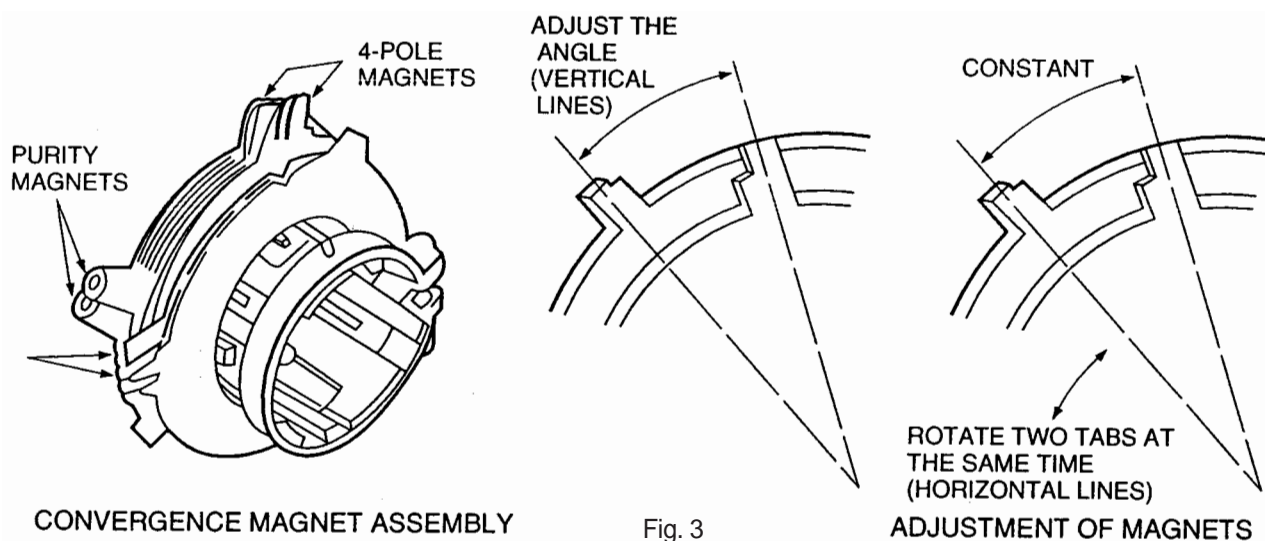
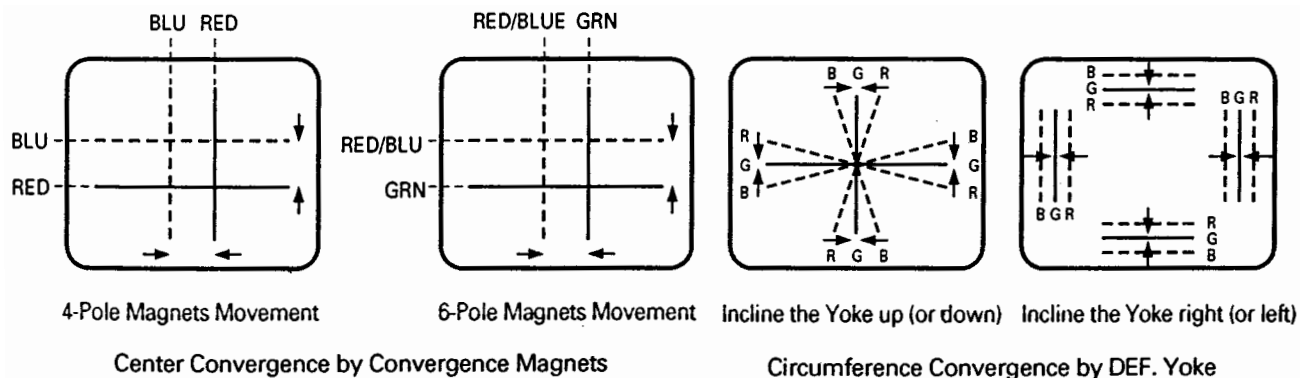

Fig. 3
Fig. 4 Dot Movement Pattern
- 3) Adjust two tabs of the 4-Pole Magnets to change the angle between them (See Fig 3) and superimpose red and blue vertical lines in the center area of the picture screen. (See Fig. 4)
- 4) Turn both tabs at the same time keeping their angles constant to superimpose red and blue horizontal lines at the center of the screen. (See Fig. 4)
- 3) Tilt front of the deflection yoke up or down to obtain better convergence in circumference. (See Fig. 4) Push the mounter wedge into the space between picture and the yoke to hold the yoke temporarily.
- 5) Tilt front of the yoke right or left to obtain better convergence in circumference. (See Fig. 4).